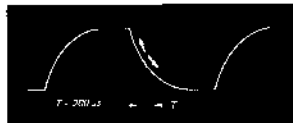

Fig. 7-8.
2. Adjust R452 for minimum hunting (less than $200 \mu\text{s}$). See Fig. 7-8.